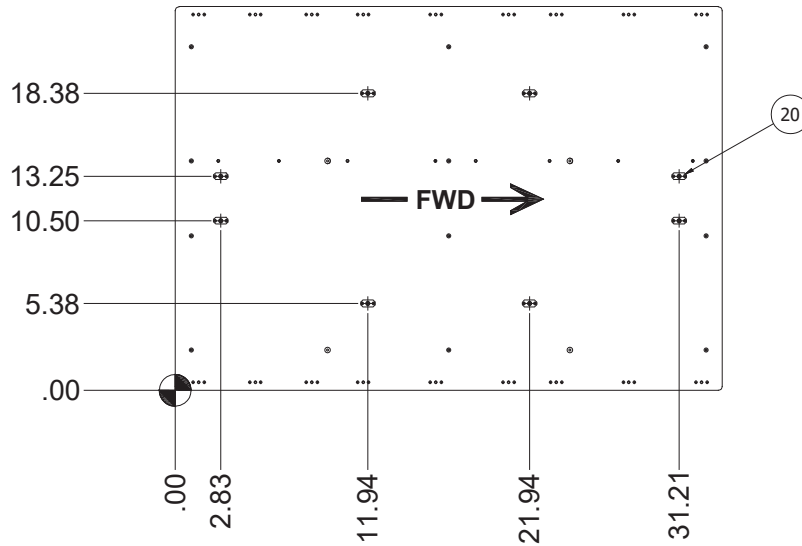

Figure 2
1. Drill holes and install nutplates with flush rivets in the baggage floor panel per Figure 2.